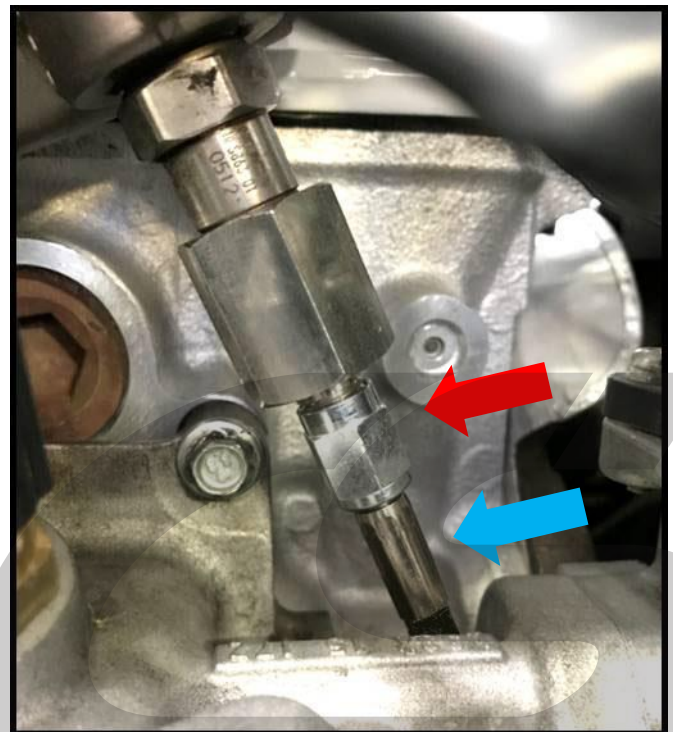

Figure 8d
h) **Torque the CorkSport fuel line to the fuel pump.** Tighten the fuel line finger tight then use a 11mm wrench at the **red arrow** to torque the fuel line to **15-18 ft-lbs or 1/2 turn past snug (shown in Figure 8d).**